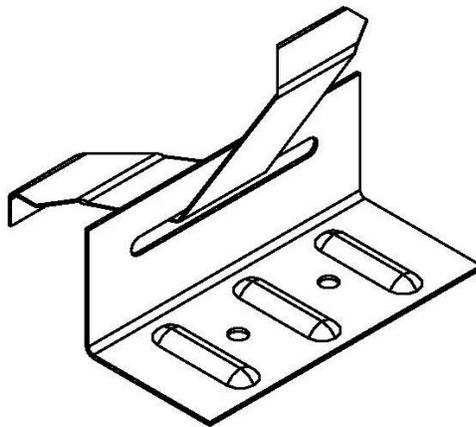

Figure 2. DMC 200S Butterfly Clip
Attachment of Metal Roof Panels to the Roof Deck: The metal roofing panels shall be secured to the roof deck with DMC 200S butterfly clips. The butterfly clips consist of a "base" and a "butterfly." Refer to Figure 2 for an illustration of the butterfly clip. The "base" is 18 gauge L-shaped galvanized steel that is 2" wide, $1\frac{3}{4}$ " high, and $4\frac{1}{2}$ " long. The base has a $\frac{1}{4}$ " wide by 3" long slot located $\frac{1}{2}$ " from the top for the "butterfly." The "butterfly" is 22 gauge galvanized steel that is 5.045" long by 0.929" tall with two return flaps. Each DMC 200S butterfly clip is secured to the roof deck with two (2) minimum No. 10 x 1" long pancake head screws as indicated in Table 1. The fasteners shall be long enough to ensure a minimum penetration of $\frac{1}{4}$ " below the roof deck. (Note: If the metal roofing panels are installed over an existing roof covering, then the fastener length shall be increased so that the fasteners are long enough to ensure a minimum penetration of $\frac{1}{4}$ " below the existing plywood roof decking.) The butterfly fly clips shall be located approximately 3 inches from each end and 24 inches on center as indicated in Table 1. The female rib of the panel is placed over the male/clip assembly and seamed 180 degrees.